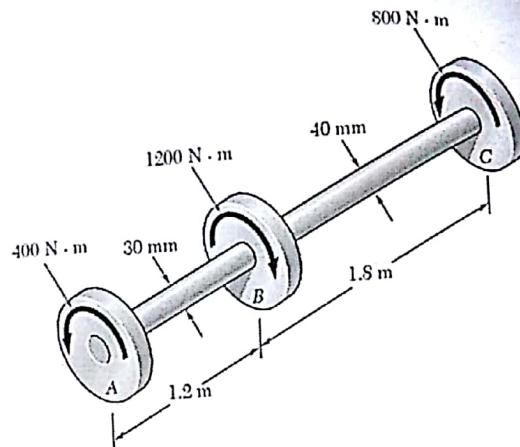

Fig. 6
- (a) A and B, (b) A and C. (Fig. 6)